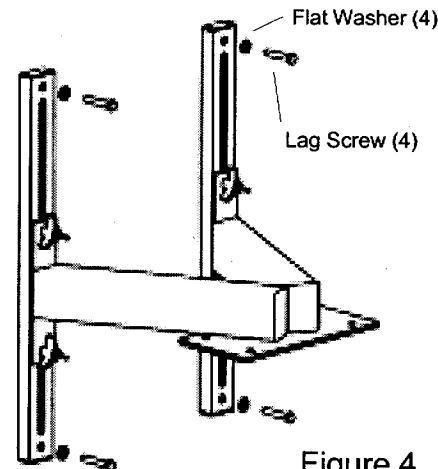

Figure 4
4. Install a 3/8" flat washer onto each of the four lag bolts. While a helper holds the Main Support in place against the wall, line up the holes in the unit with the holes in the wall. Insert a lag bolt into each of the holes and loosely tighten using a 9/16" socket wrench, Figure 4. If necessary, loosen the Hand Knobs to get the holes in the Rails to line up with the holes in the wall. Once all four lags are in, finish tightening them.